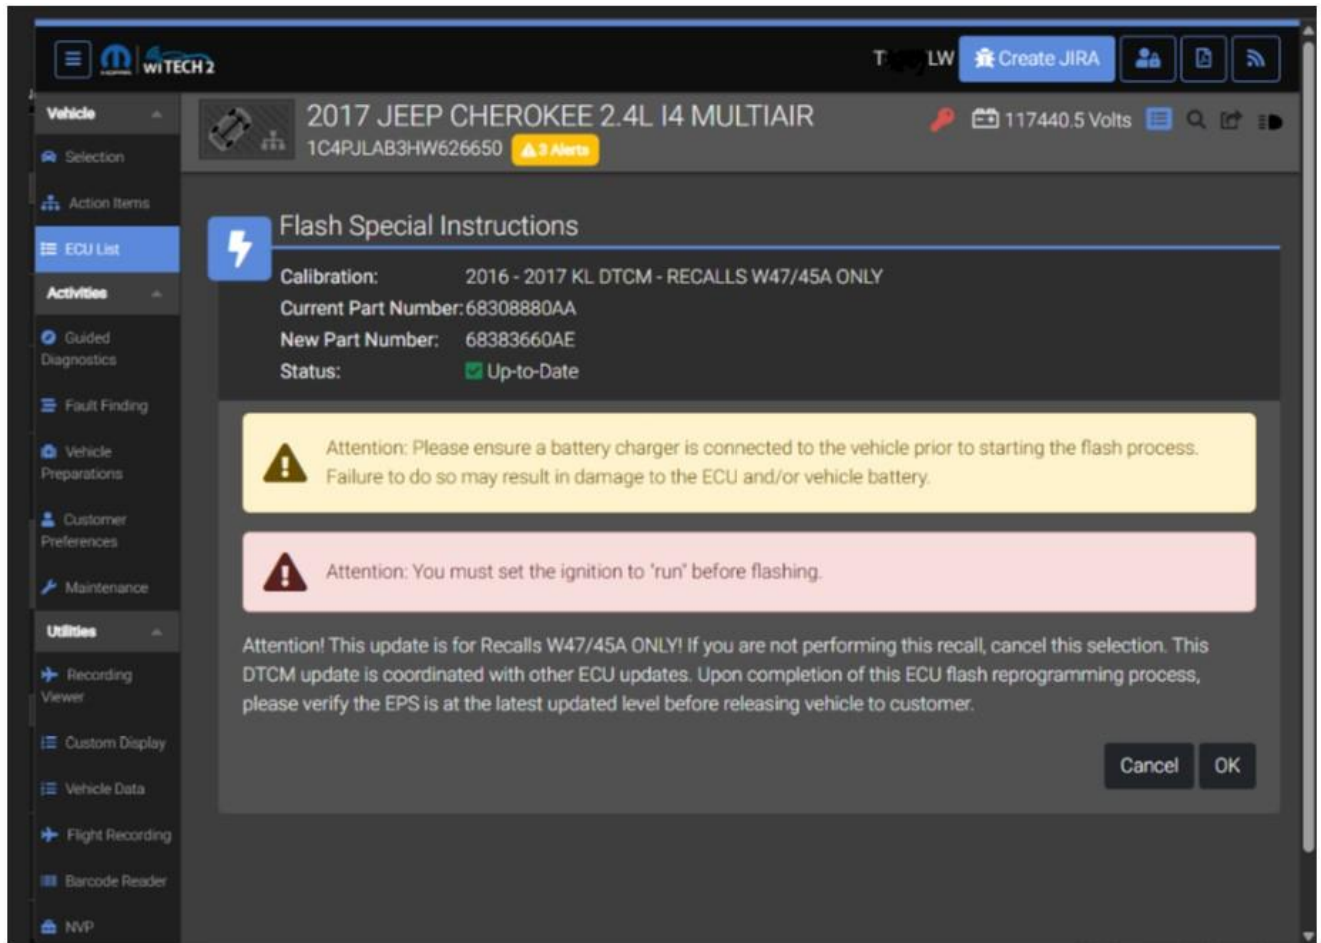

Figure 2 – Flash Special Instructions
- Read the flash special instructions page. Select “OK” to continue (Figure 2).